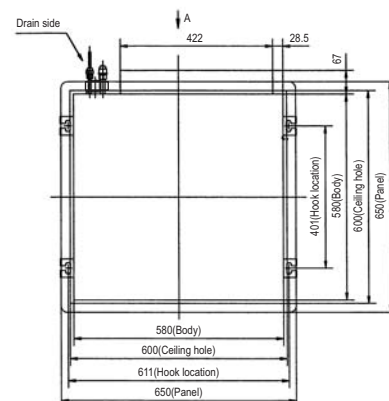

Fig.15
- a. Please cut a quadrangular hole of 600 600mm in the ceiling according to the shape of the installation paper board. (Refer to Fig.15 & 16)